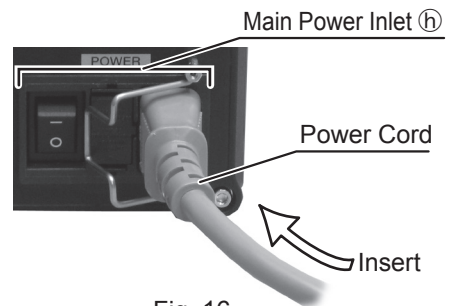

Fig. 16
- (2) Insert the female plug into the main power inlet box on the rear of the control unit. Refer to the Fig 16.